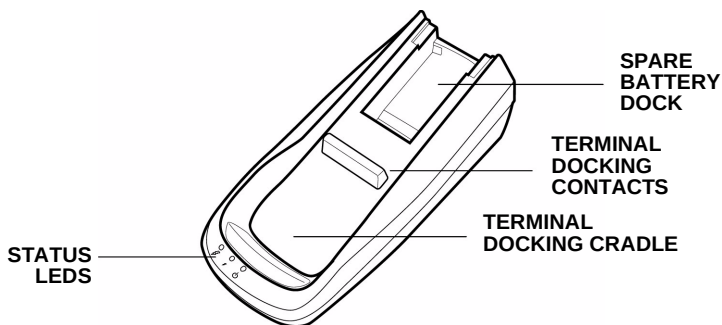
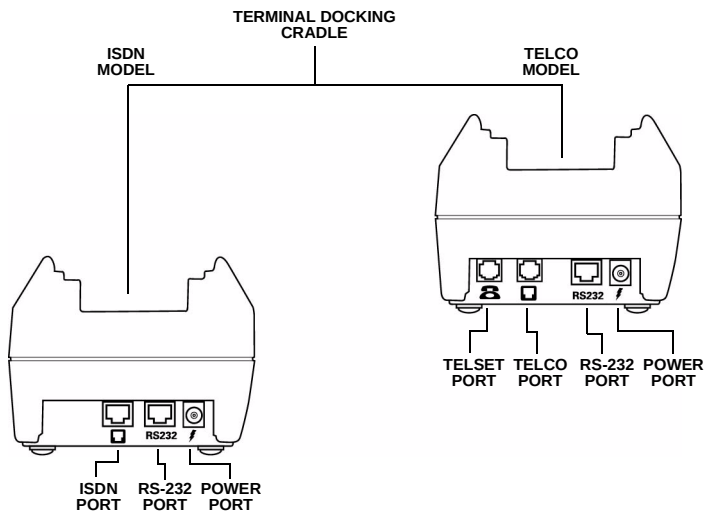

Figure 21 Omni 3600 Base Features: Top
Figure 22 Omni 3600 Base Features: Back (ISDN and Telco models)
The following are the physical features of the Omni 3600 base (Figure 21 and Figure 22):
- Docking cradle: For Omni 3600 terminal (Figure 21) smart battery recharging and data transfers.